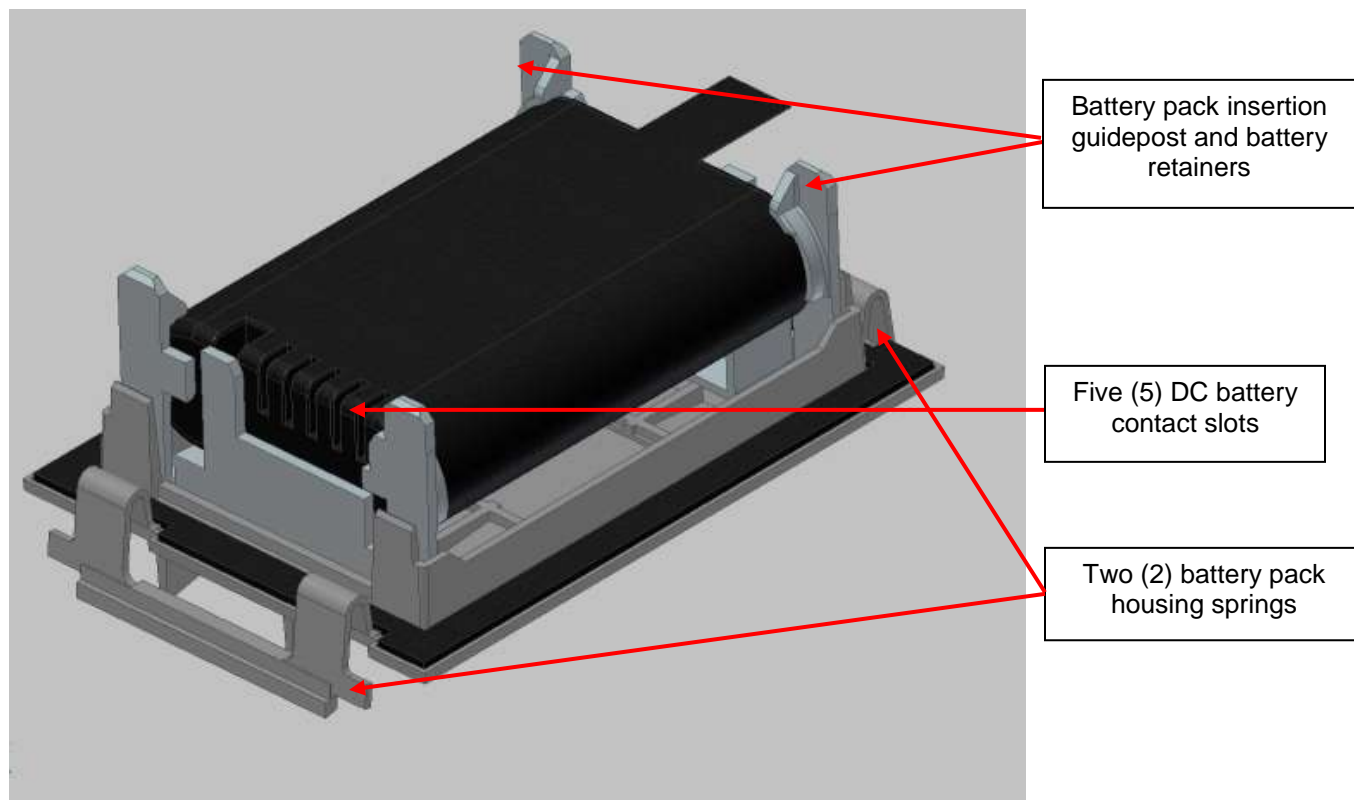

Figure 5: Re-chargeable Li-Ion battery pack and removable battery pack housing.
The rechargeable Li Ion battery pack and AA battery packs are illustrated in Figures 5 and 6.
- The user must be sure that the battery has been installed into the removable battery pack correctly. The five (5) DC contact slots on the Li Ion or AA battery pack should align with the DC battery terminals located on the EMP-400 electronics assembly board inside the removable battery pack enclosure. The battery should be inserted so that the five (5) battery contact slots are facing UP (Figures 5 and 6).